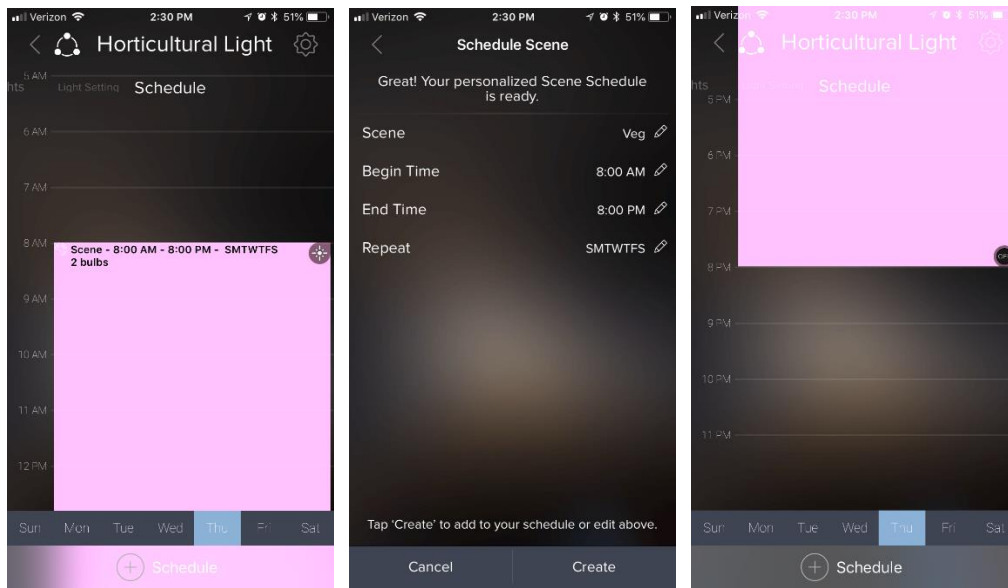
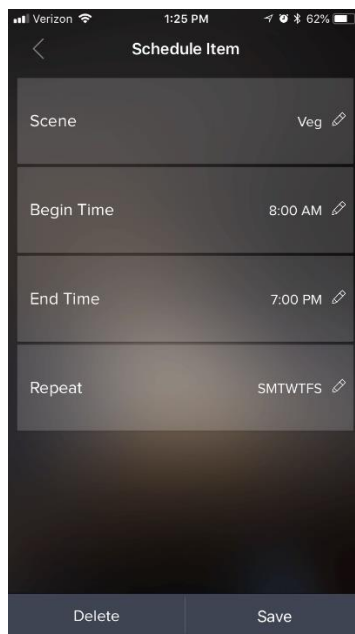

Figure 5-7 Schedule Screen
Figure 5-8 Schedule Settings
5.4.1 Click on the Group, or individual light inside the Group, and scroll to the right until the Schedule tab appears as a screen, as shown in first image of Figure 5-7. Click on the Schedule button and then select Light Setting or Scenes as needed for scheduling as in Figure 5-8. Select the SLCs to which the schedule needs to be applied and follow the process until the finished.
By clicking (double tap) on the schedule in a calendar view, the user can enter “Schedule Settings”, as shown in Figure 5-8. The user can then edit any parameter of the schedule or delete that schedule as well. Please note that, in order to remove the schedule from the SLC, the user needs to be close to the SLC and the SLC should be connected to the app.